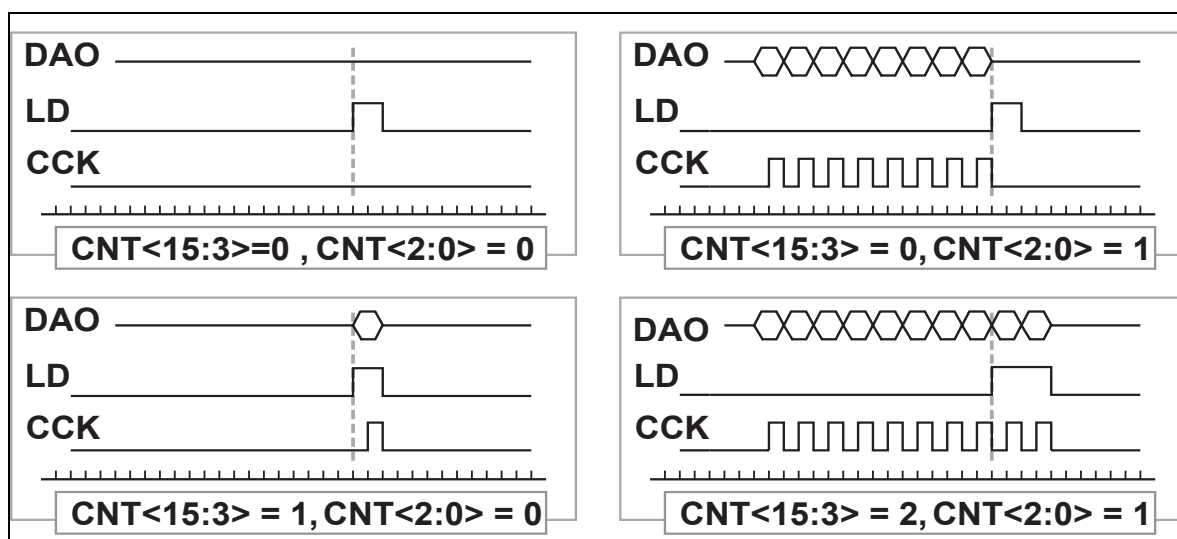

Figure 6-4 Waveforms of the signals to configure FE chips for different settings of CNT register.
- Fig. 6-4** *p. 5* Waveforms of the signals to configure FE chips for different settings of CNT register.
Figure 6-4 shows the waveforms of the signals in response to a *FE* configuration command depending on the settings of the CNT register. CNT<15:3> sets the length of the *Data* part of the *FE* command in CCK units, while CNT<2:0> x 8 sets the length of the *Command* part of the *FE* command in CCK units. As LD is used to distinguish between *Command* and *Data* part we have to ensure that it is always generated. This figure shows how the LD signal is generated, in CCK units, in response to all possible combinations of *Command* and *Data* parts also when one of the two is zero.